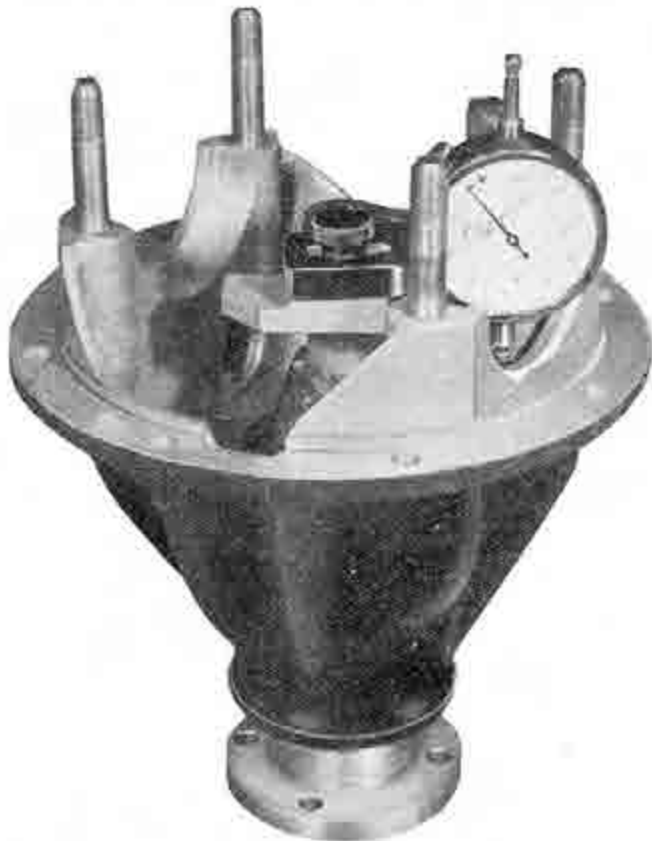

Fig. HH.3.
- (g) Remove the keep disc from the base of the magnet; clean the pinion head and place the magnet and dial indicator in position (Fig. HH.3). Move the indicator arm until the foot of the gauge rests on the centre of the differential bearing bore at one side and tighten the knurled locking screw. Obtain the maximum depth reading and note any variation from the zero setting.